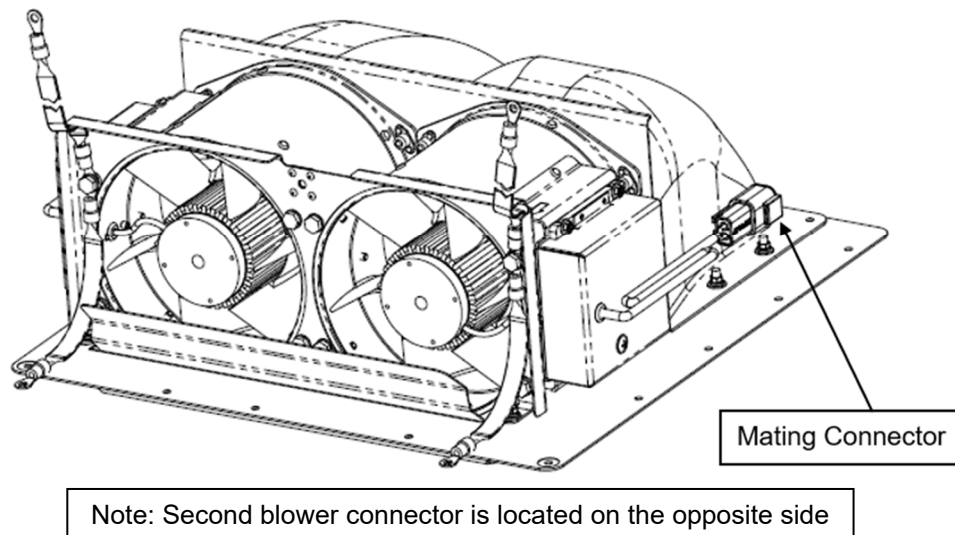

Figure 1: Condenser Blower A119-7006-3
The Molex motor connectors used in the Air Comm Corporation Condenser Blower Assembly A119-7006-2 are now obsolete and have been replaced with Deutsch connectors ES59112 as built per A119-7006-3, shown in Figure 1.
9. After installing or converting both blower assemblies to P/N S-6501EC-4, locate existing Molex Connectors on the aircraft-side that need to be replaced. The new aircraft-side connectors ES59112-13 will plug into the mating connectors of the condenser assembly A119-7006-3, shown in Figure 1.